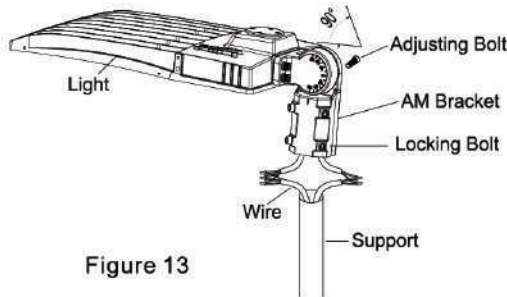

Figure 13
Step 1: Loosen the four bolts on AM bracket, connect the wires correctly, and pull the wires into the poles.(Figure 13)
Notice: Adjustable angle is 0-90°(Figure 13)